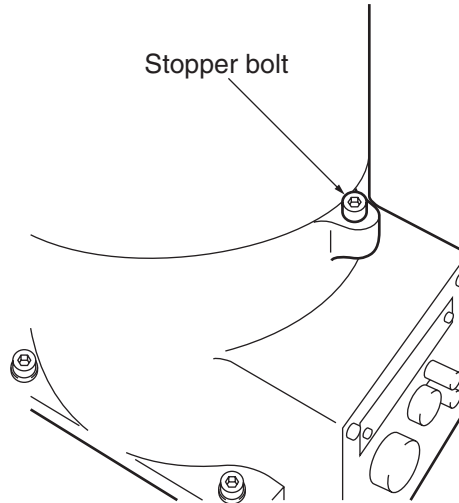

Figure 1-6. Stopper Bolt on Robot
1. Move the Joint 1 axis until the stopper bolt is positioned on the inside of the motion space that you want to set. See Figure 1-6.